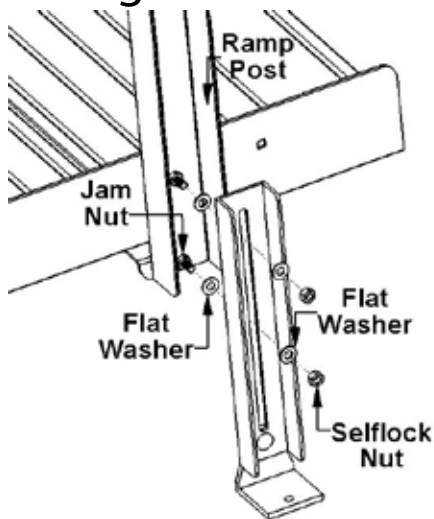

Fig.4.13
4.5 Leg Attachment & Adjustment: With the ramp run completely assembled and positioned in the final resting location the legs can now be attached and adjusted. Place a washer over the carriage bolts and jam nuts used to attach the ramp post, place leg inside of the ramp post with carriage bolts coming through the slotted hole of the ramp leg, and fasten with another flat washer and self locking nut (**Fig.4.13**). Slide the leg down until the angle of the leg makes solid contact with the resting surface, loosen the leg angle hardware so it sits flush on the resting surface and re-tighten all hardware.